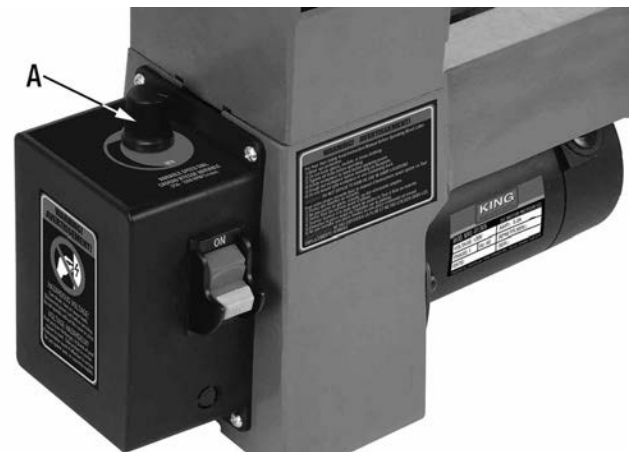

FIGURE 9
This wood lathe comes with a variable speed dial (A) Fig.9. While the machine is running, the speed can be increased or decreased by turning the dial. The variable speed range is 750 -3200 RPM.
1. Turn the variable speed dial (A) Fig.9 clockwise to increase the spindle speed or counterclockwise to decrease spindle speed.